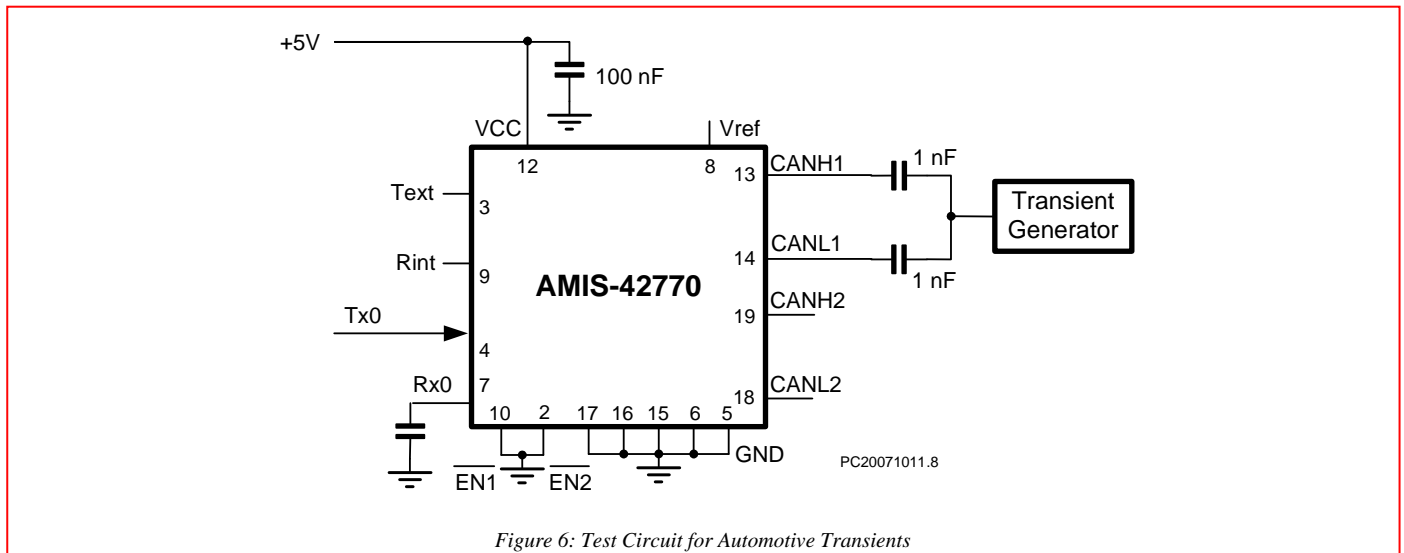

Figure 6: Test Circuit for Automotive Transients
- (1) Applied transient waveforms in accordance with "ISO 7637 part 3", test pulses 1, 2, 3a, and 3b (see Figure 6).
- (2) Standardized human body model (HBM) ESD pulses in accordance to MIL883 method 3015. Supply pin 8 is  $\pm 2$  kV.
- (3) Static latch-up immunity: static latch-up protection level when tested according to EIA/JESD78.
- (4) Standardized charged device model ESD pulses when tested according to EOS/ESD DS5.3-1993.